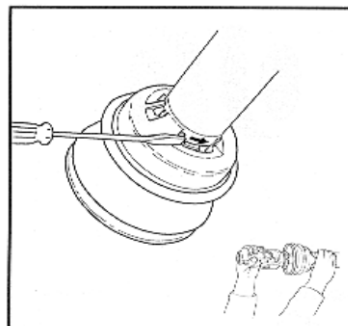

Figure 100: Turning Bearing
3. Turn the bearing in the direction as indicated in Figure 100. Then, slide guard off the bearing.